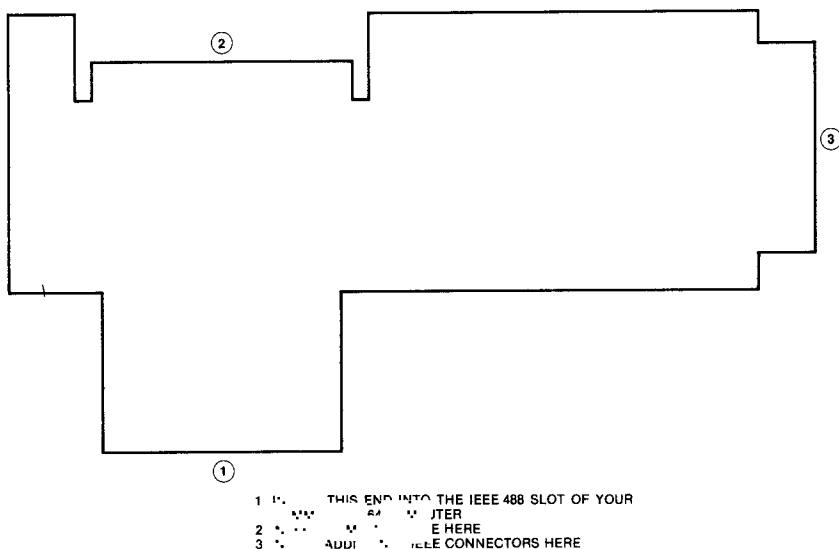

Figure 2.2 IEEE Interface Cartridge Diagram
cartridges (like the Z80 cartridge) and also has a connector for the CBM peripherals. Figure 2.2 shows a diagram of the IEEE cartridge connections.
3. Install the Z80 cartridge into the IEEE cartridge slot as shown in the diagram in Figure 2.2.
When using CBM series peripherals (like the CBM 4040 disk drive or the CBM 4022 printer), you need to connect your peripherals to the IEEE interface cartridge. Figure 2.2 shows a diagram of the IEEE interface cartridge.